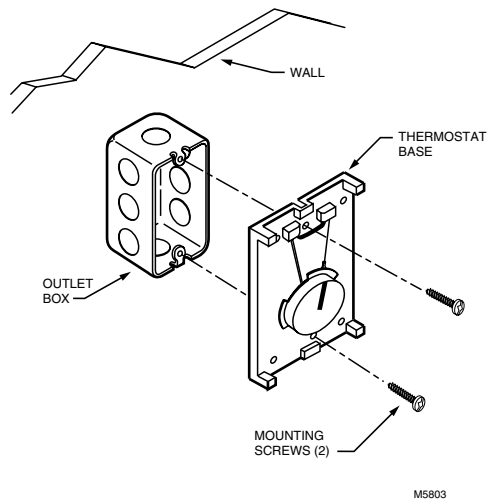

Fig. 4. Mounting thermostat on outlet box.
8. Mount the thermostat on the outlet box. Tighten the two mounting screws (included) to secure the thermostat, taking care to avoid excessive pressure on the setting dial. See Fig. 4.
- 7 Mount the thermostat on the outlet box. Tighten the two mounting screws (included) to secure the thermostat, taking care to avoid excessive pressure on the setting dial. See Fig.4.